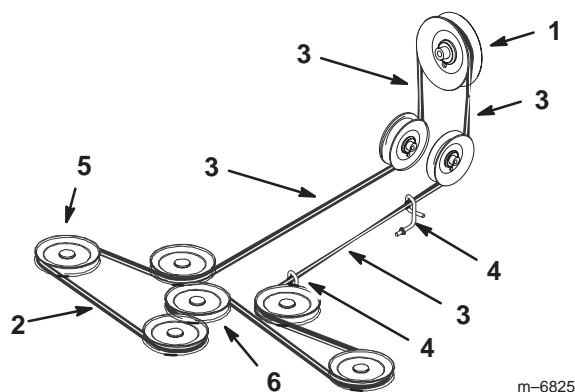

Figure 72
6. Install the new mower belt around the mower spindle pulleys, mower idler pulley, into the belt guides, into rear idler arm assembly, and the clutch (Fig. 72).
Important Check the amount of twist in the belt between the pulleys. Make sure it is only what is specified in Figure 72.